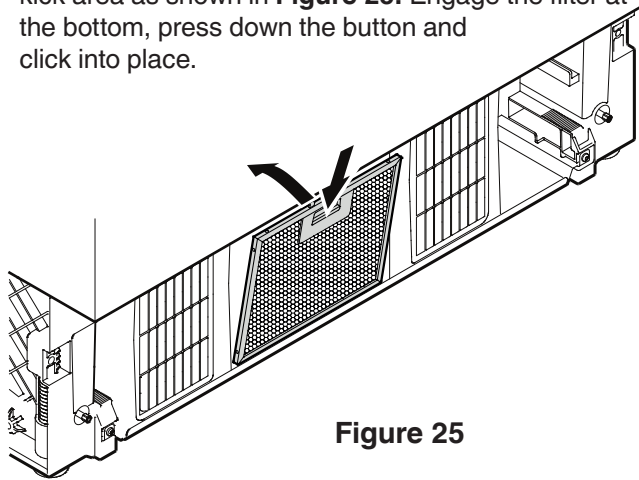

Figure 25
2. Remove the blue protection film from the dust filter provided and insert the filter into its opening in the toe kick area as shown in **Figure 25**. Engage the filter at the bottom, press down the button and click into place.